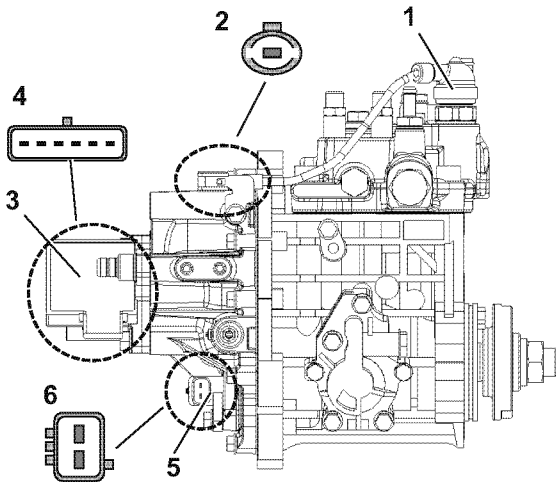

Figure 7-8
- Remove the solenoid valve connector (**Figure 7-8, (2)**), rack actuator connector (**Figure 7-8, (4)**), and engine speed sensor connector (**Figure 7-8, (6)**).